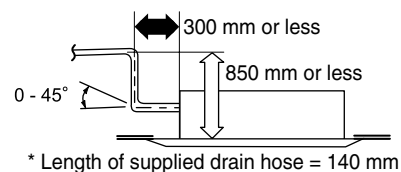

Fig. 3-51
- In cases where it is necessary to raise the height of the drain piping, the drain piping can be raised to a maximum height of 850 mm above the bottom surface of the ceiling. Under no conditions attempt to raise it higher than 850 mm above the bottom surface of the ceiling. Doing so will result in water leakage. (Fig. 3-51)